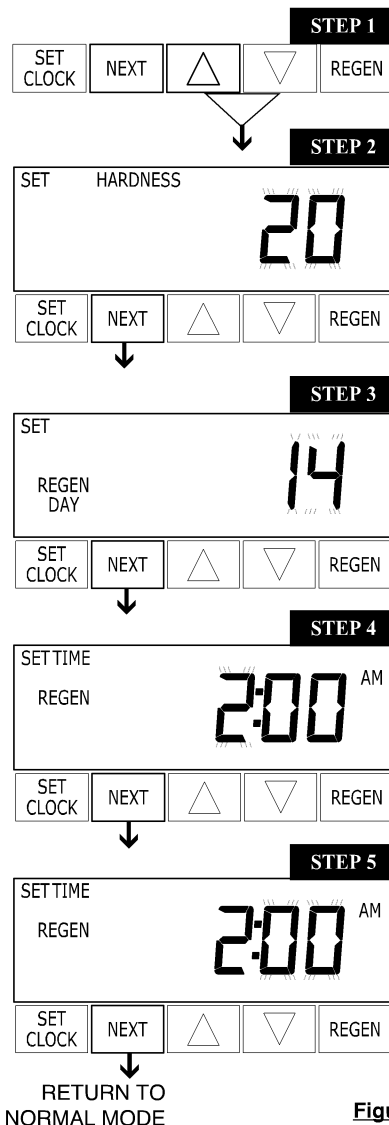

Figure 9
12. Next set your softeners water hardness, days override and regeneration time settings (see figure 9, page 7).